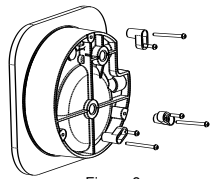

Figure 3
- As shown in Figure 3, prepare a 4-9/16" (115.5 mm) diameter opening in the installation panel. Insert the gauge into the opening. Attach the three mounting adapters and short screws from the accessory kit to the bottom of the gauge. Securely fasten the gauge onto the panel using the three long screws provided.